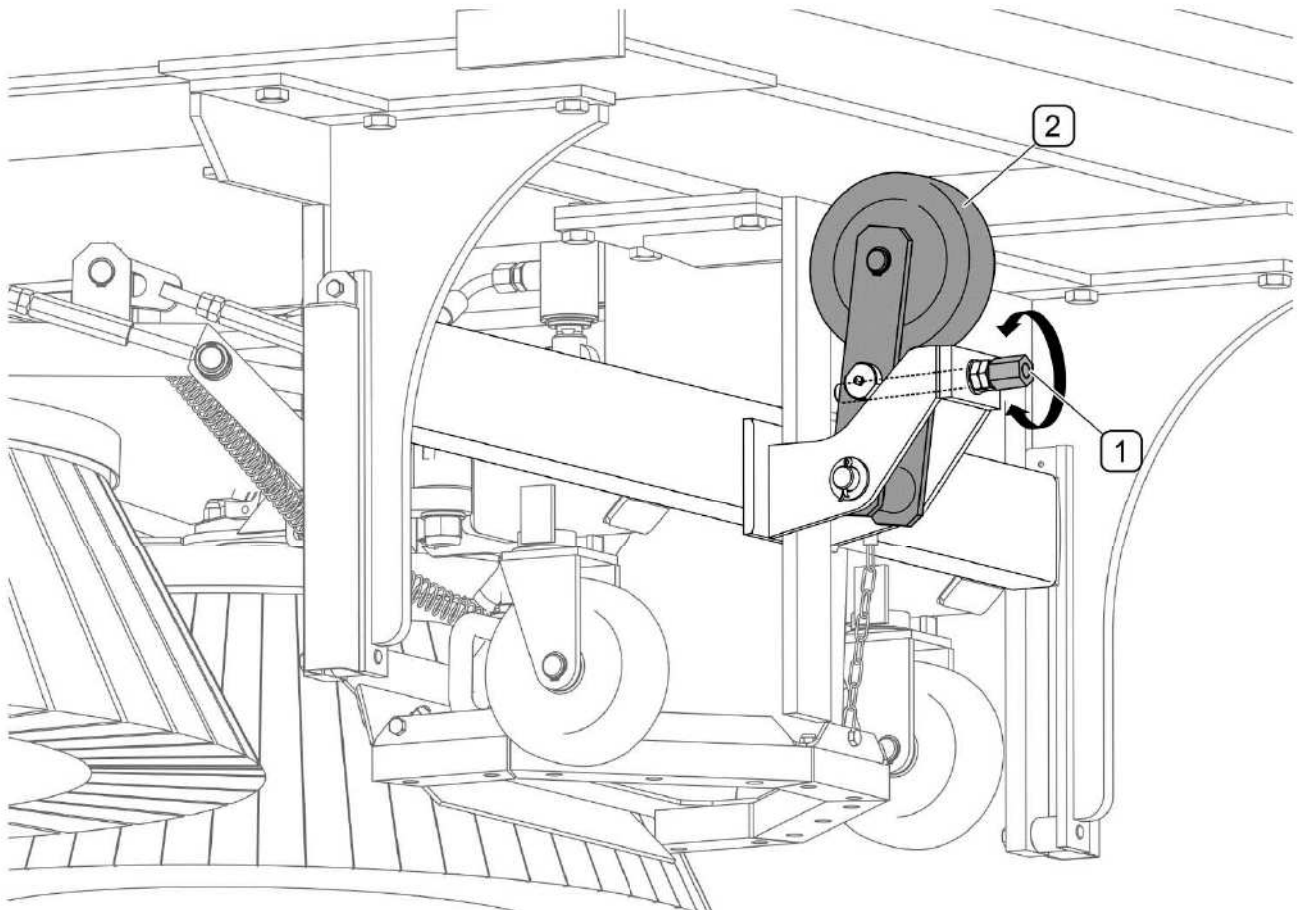

FIG. 5.6 **Levelling of the sweep unit** (view from the bottom of the machine)
- 1) Levelling of the sweep unit (FIG. 5.6)
(1) - adjustment bolt; (2) - resistance wheel
At the start of operation sweep unit should be levelled (FIG. 5.6) by adjusting resistance wheel (2). The adjustment is done by screwing or unscrewing the adjustment screw (1).